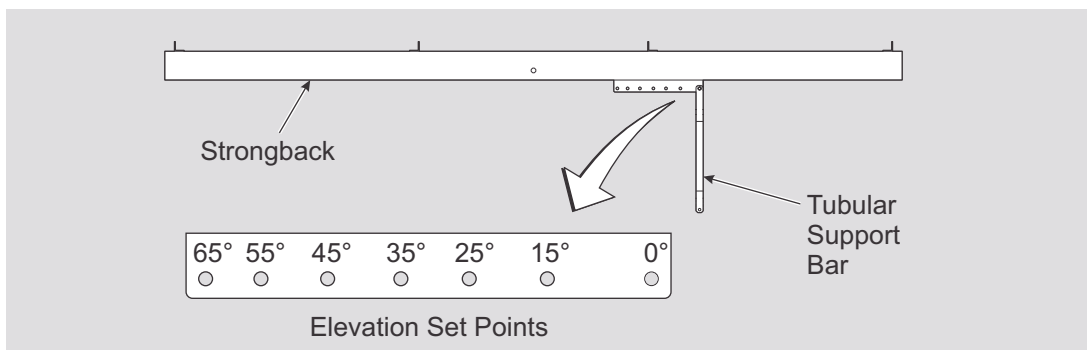

Figure 7-2: Setting the Tilt Angle
- B. Tilt the rack to the desired elevation angle (15°, 25°, 35°, 45°, 55°, or 65°) and re-attach the Support Bar to the Strongback placing the 1/2” hardware in the appropriate hole matching the desired elevation. **Torque to 72-80 ft.-lbs.** (See Figure 7-2)